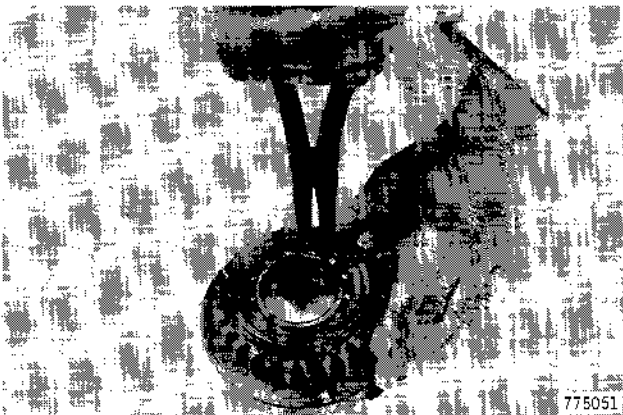

Figure 53
- 25. To remove bearings from reverse gear, remove snap ring, Figure 53.